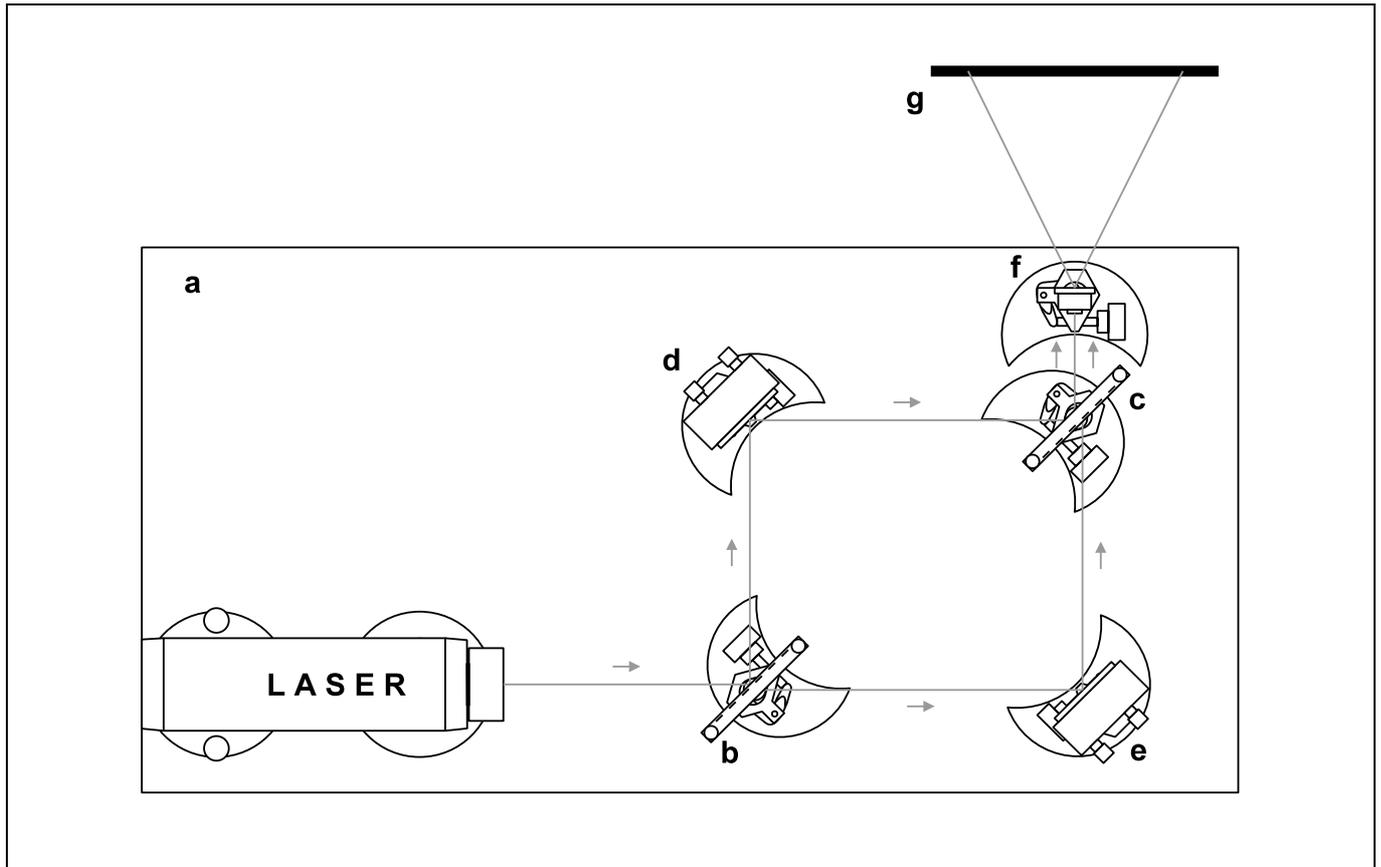

Fig. 2: Setup of the Mach-Zehnder interferometer on the laser optics base plate with evacuable chamber, top view
Fig. 2 shows the setup of the Mach-Zehnder interferometer on the laser optics base plate. The components must be aligned particularly carefully with regard to the geometry of the beam path. To set up the experiment correctly, you must carry out the following steps:
- Place the beam divider **(b)** with optics base in the beam path at an angle of 45° as shown in Fig. 2; The partially transparent layer of the beam divider should face the laser.